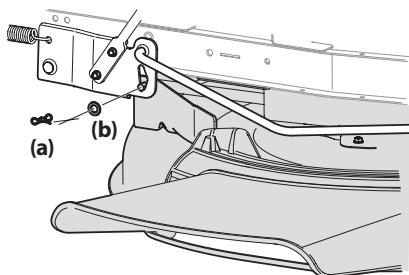

Figure 18
- Remove the bow-tie cotter pin (a) and flat washer (b) from the deck lift assembly and retain for reinstallation later. See Figure 18.